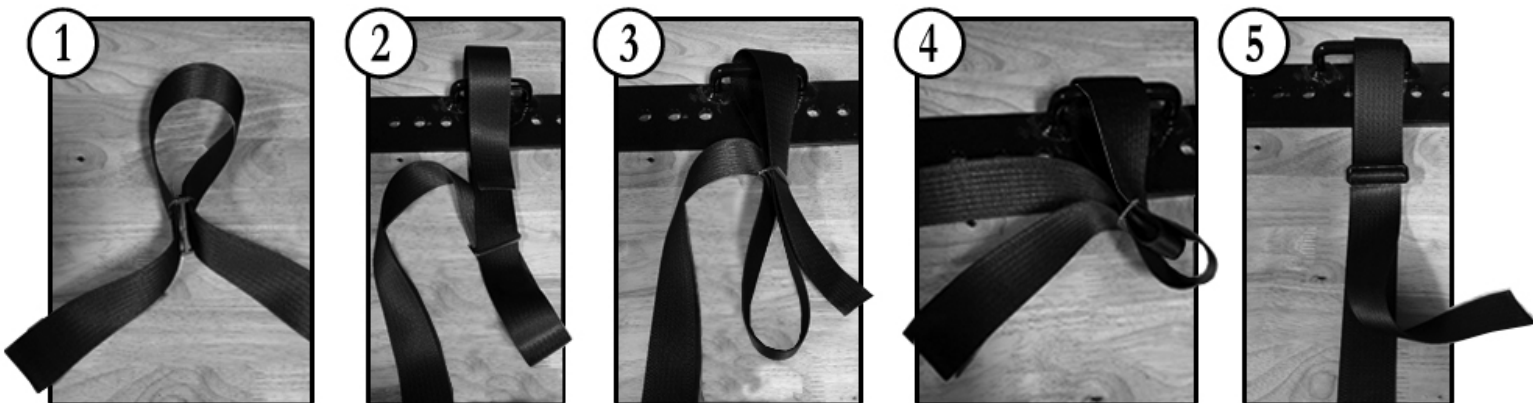

Figure 7
- Fasten the torque strap bracket to the end support once a final position is determined. Fasten the torque strap using the 2" buckle as shown in Fig. 7 below. The supplied strap is 35ft long and will need to be trimmed in most cases. Always leave extra strap for adjustment. Keep a light amount of tension on the torque strap.